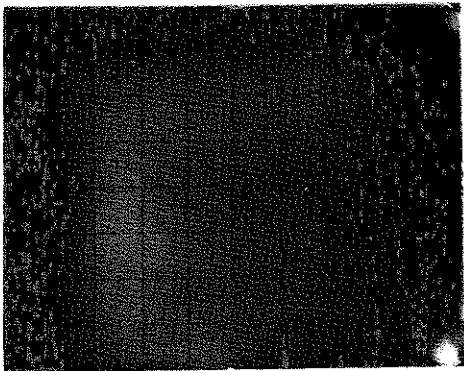

Figure 3-3. Background illumination immediately after erasing with WRITING SPEED in FAST and PERSISTENCE to MAX
- h. Background illumination. A green cloud of illumination visible on the CRT screen, figure 3-3.